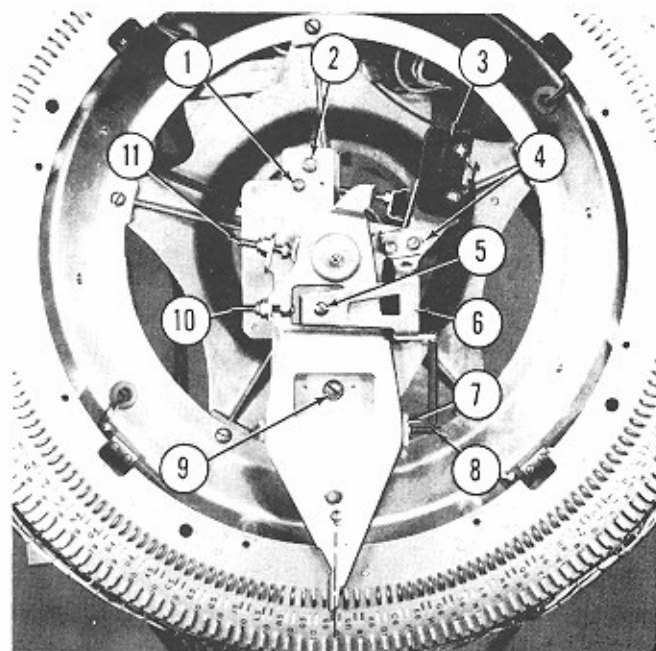

Fig. 74. SELECTOR CRANK AND SHAFT ASSEMBLY AND ADJUSTMENT
r. Setting of Selector Crank and Shaft. (Figs. 74 and 75)
(1) The two adjusting screws (Items 2 and 9, Fig. 74) which hold the selector crank assembly to the selector bracket and shaft assembly should be set in the center of their adjustment range. The kick-off adjusting screw (Item 11) should be set to position the selector crank mounting shaft (Item 8) in the center of the guide slot (Item 7) in the selector crank mounting bracket.
(b) If it has moved from the original setting, loosen the two adjusting screws (Items 9, and 2, Fig. 74) and reset the lip of the selector crank to the center position between A1 and D6, while maintaining the firm position of the record carrier at the A1 back stop pawl.
(c) Tighten the two adjusting screws. Final anchoring of this adjustment is accomplished in production after completion, testing and inspection, by drilling and inserting the #8 thread cutting screw (Item 1, Fig. 74).
s. Selector Crank Settings. (Fig. 74)
(1) Selector Crank Clearance.
The selector crank stop arm (Item 6, Fig. 74) should be set with its holding screw (Item 5) to provide alignment of the center line of the ball in the stop screw (Item 10) with the front side of the stop arm to 1/32" toward the rear side of the stop arm.
(4) Set the stop screw (Item 10) to stop the selector crank with 1/64" to 1/32" over-travel of the selector crank, as measured at the tip of the crank, after the carriage switch (Item 3) has been actuated.
(5) By depressing the stop bracket against its spring, the selector crank may now be displaced further in a clockwise direction. Set the stop bracket (Item 4) to intercept the selector crank at 1/32" to 3/32" over-travel of the carriage switch as measured at its actuating arm.
(6) The lip of the selector crank may be centered between the cancelled pin and the next following pin as shown at C/L, Fig. 74, between pins S5 and V0. This may be accomplished by adjustment at the kick-off screw (Item 11). After kick-off action the latch pins on each side of the selector crank must be free to full extent when released.